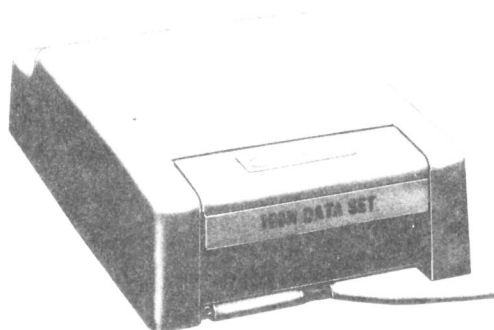

Fig. 1—Data Set 108H (Similar to Data Set 108J)
1.01 This section contains the physical and functional description for data sets (DSs) 108H and J (Fig. 1) in private line service.